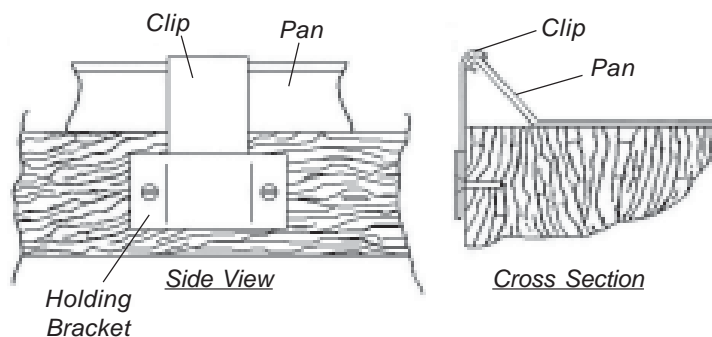

Figure 4
B) Slide the pan into position with the pan lip under the edges of both clips (see Figure 4).